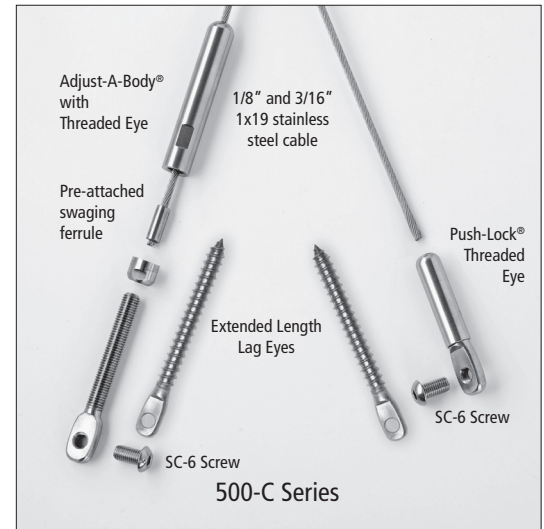

Figure 1
4. Slide the body of the Adjust-a-Body® with Threaded Eye onto the bare end of the cable, threaded end first, and pull it the length of the cable until it is stopped by the ferrule already swaged onto the cable. (Figure 1)